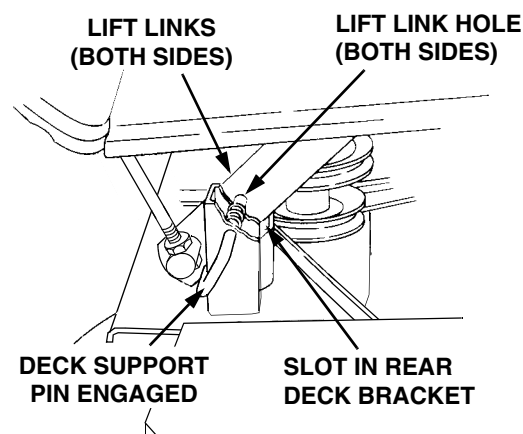

Figure 33
8. Carefully guide the tractor implement lift links (left and right) into the rear deck bracket slots (left and right) as the tractor implement lift handle is lowered to its lowest setting (Refer to Figure 33).
9. Pull both deck support pins outward and rotate rearward to disengage the outer surface of the rear deck brackets. Release the pins, making certain each deck support pin passes through the inner hole of the rear deck bracket. The spring tension will push the pins inward and, if aligned, through the hole in each implement lift link (Refer to Figure 33).